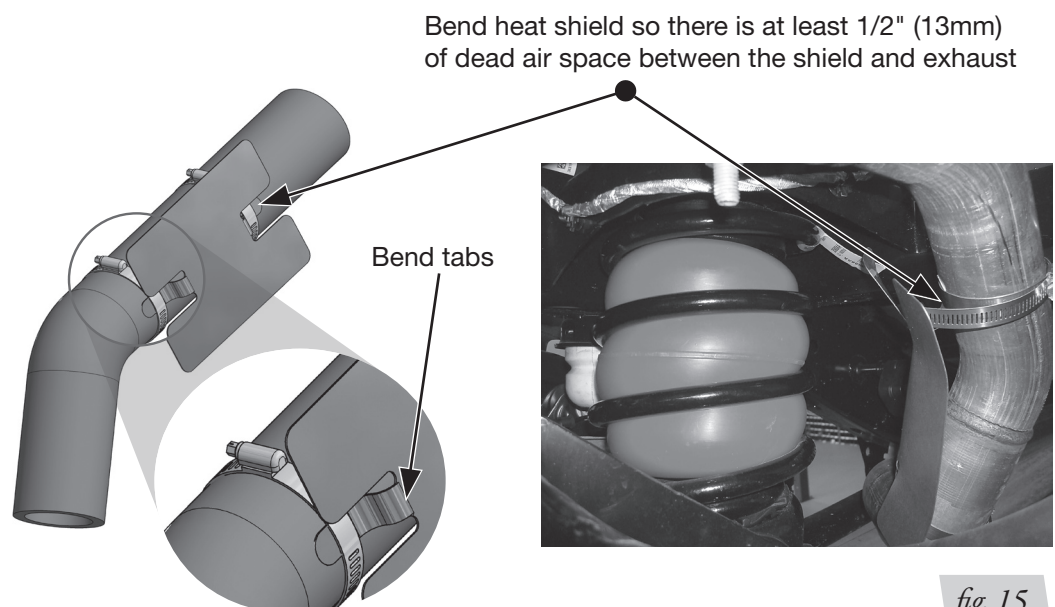

fig. 15
1. Attach the metal heat shield to the exhaust where it is closest to the driver's (left) side air spring (Fig. 15).